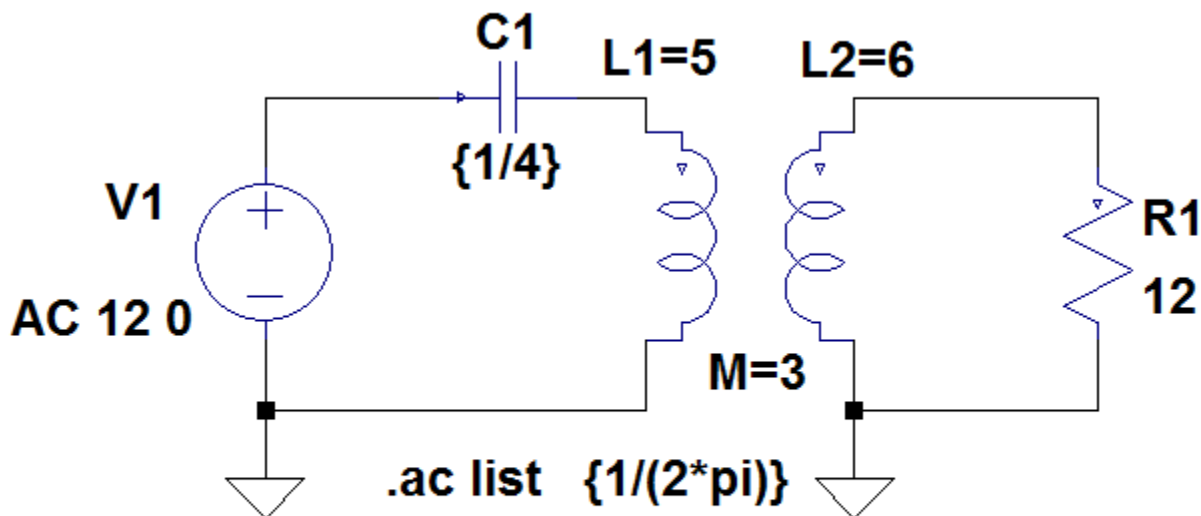

Figure 2: LTspice IV Schematic Corresponding to Figure 1
The corresponding LTspice IV schematic is shown in Figure 2. The **coupled_inductor_pair_1** component from the **03_coupled_inductors** component directory is used to represent the coupled inductor pair. There are three parameter values that must be set when using a pair of coupled inductors. You must set the self-inductance values (L1 and L2) and the value of mutual inductance (M). The method discussed in the AC Analysis tutorial for simulating phasor circuits is used here: inductance values are equal to the inductive reactances, capacitance values are equal to the negative reciprocal of the capacitive reactances and the circuit is simulated at a frequency of $\omega = 1\text{ rad/s}$ ($f = 1/2\pi\text{ Hz}$).
Table 1: Simulation Results for Figure 2